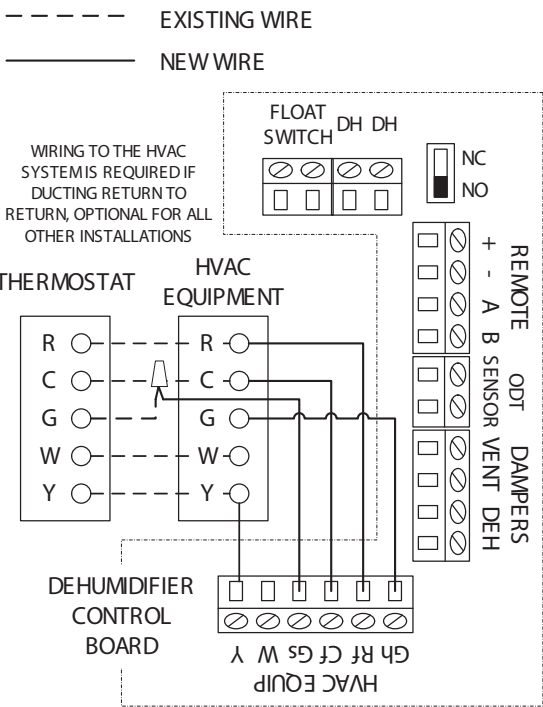

Figure 3 Wiring (shown with “disable with AC” feature being used)
The dehumidifier will automatically “sample” the air by turning on its blower (and the HVAC blower if this option has been wired – see **Figure 3**), and measuring the relative humidity (RH) once every hour. Sampling will also occur when the RH setting is lowered using the UP or DOWN buttons on the control.